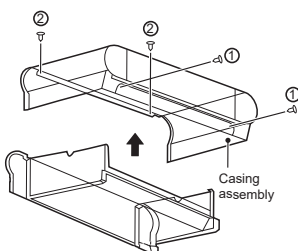

Figure 4-6 Removal of casing
- c) As shown in Figure 4-6, remove screws ①\*2 and ②\*2 and then the casing.